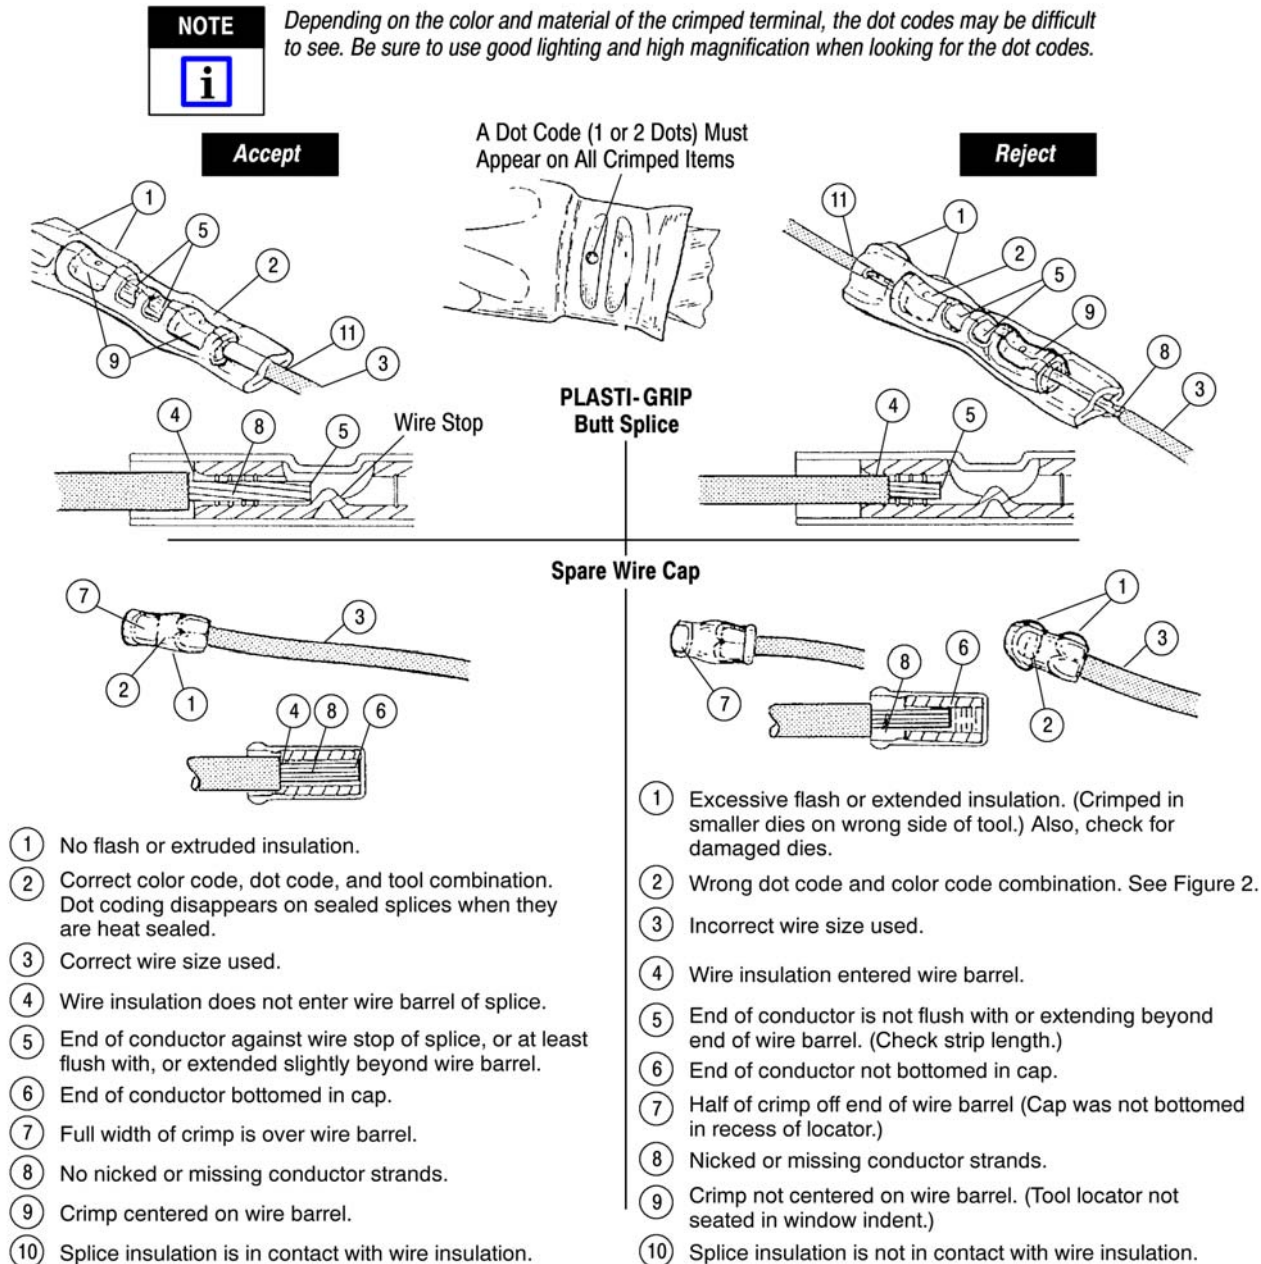

Figure 7
8. Refer to Section 6 and Figure 6 or Figure 7 for terminal or splice "Crimp Inspection" procedure.
8. Refer to Section 6 and Figure 7 wire cap crimp inspection procedure.
Inspect crimped terminals, splices and spare wire caps by checking the features described in Figure 6 or Figure 7.